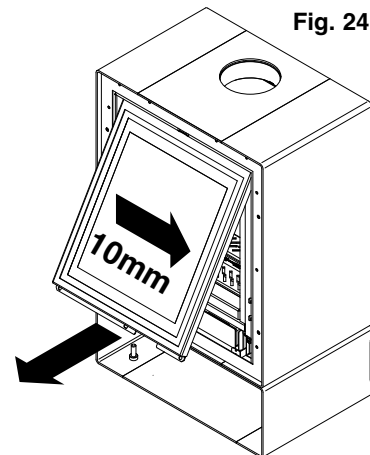

Fig. 25
4. Slide the door to the right by 10mm and remove the door from it's hinges (Fig. 25).